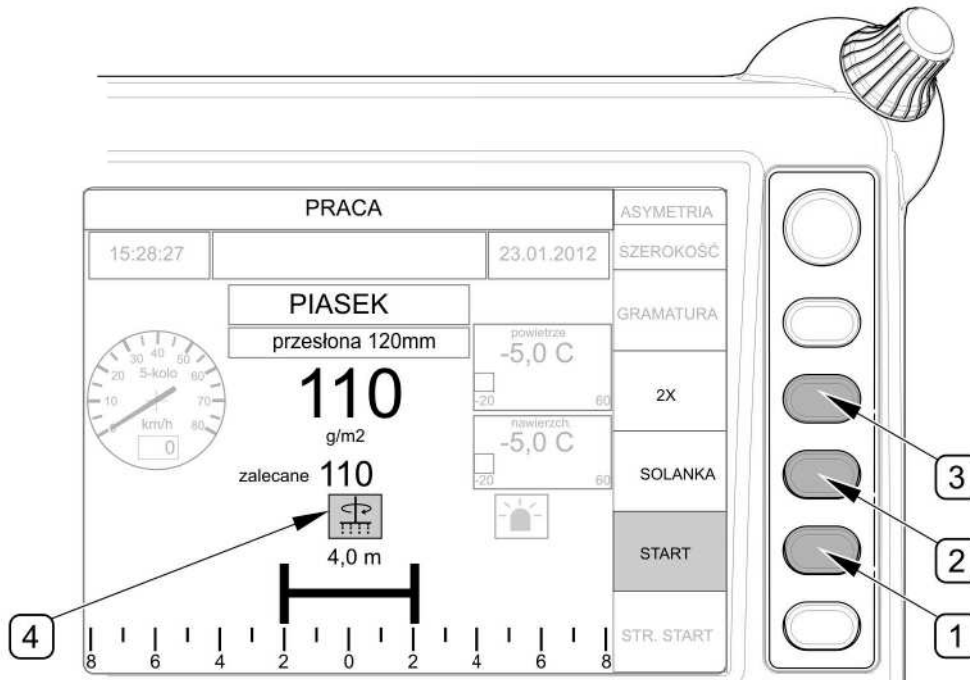

FIG. 4.27 Activation of spreading
(1) - spreading activation push-button; (2) - brine spraying activation push-button; (3) - double dose push-button; (4) - control icon of activated spreading
On control panel working page "OPERATION" (FIG. 4.27), activate spreading by means of push-button (1), "START" function will be highlighted. Activation of spreading disc drive and belt conveyor is signalled by control icon (4). Brine spraying is switched on and off by means of push-button (2) "BRINE". Push-button (3), marked „2X”, is used for momentary doubling of spreading material dose.